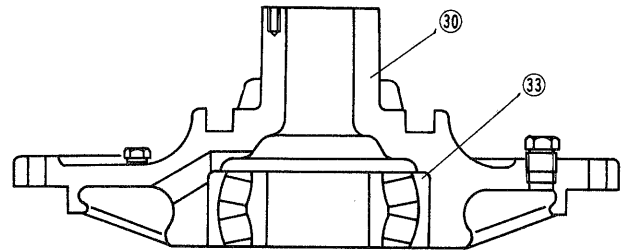

Fig. 87
- 1) Press bearing (33) and inner race of bearing (19) to axle shaft (30). (Fig. 73, Fig. 87)